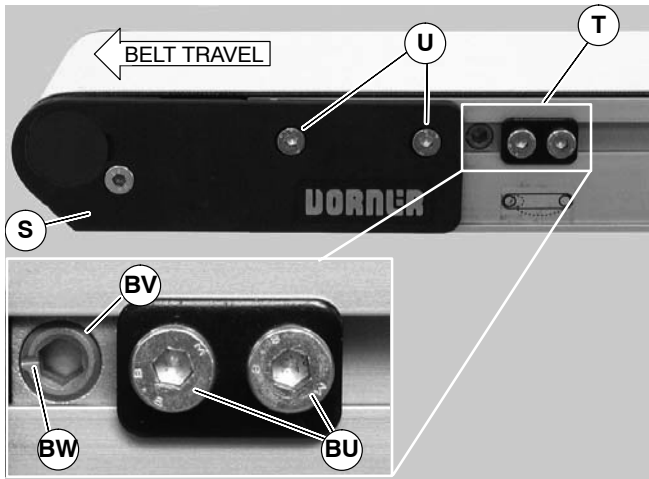

Figure 42
Non V-guided belt conveyors are equipped with belt tracking cam assemblies (T of Figure 42) for belt tracking adjustment.
1. Ensure head plate fastening screws (U of Figure 42) on both sides of conveyor are tightened.
2. On both sides of conveyor, loosen two (2) cam fastening screws (BU). Adjust cams (BV) until indicator slots (BW) are horizontal and facing end of conveyor. Then slide cam assemblies against head plates (S) and re-tighten cam fastening screws (BU) to 60 in-lb (7 Nm).
3. On the side toward which the belt is tracking, loosen head plate fastening screws (U).
4. With the conveyor running, use a 5 mm hex-key wrench to rotate the tracking cam (BV) in small increments until the belt tracks in the center of the conveyor. Then while holding the cam in position, re-tighten the head plate fastening screws (U) with a 4 mm hex-key wrench to 60 in-lb (7 Nm).